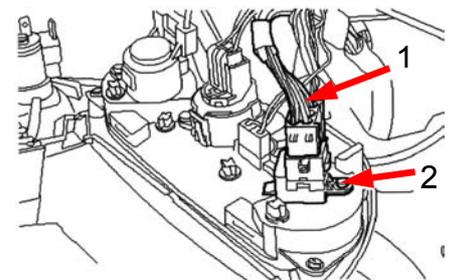

Fig. 2
- Pull the connector off the operating switch 1 and remove the screws 2 (see Fig. 2).